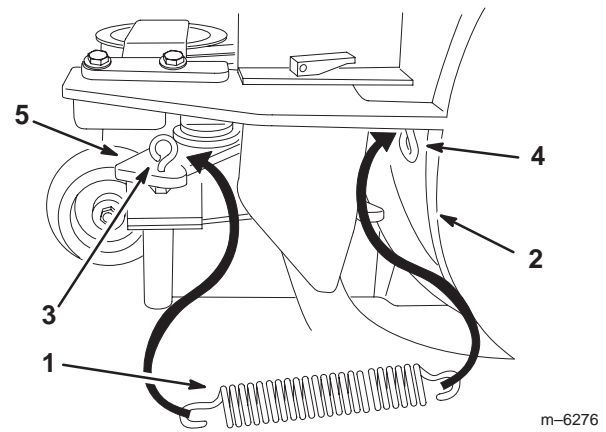

Figure 14
4. Slide the spring into the blower eye bolt (Fig. 14).
5. Install the spring into the idler arm eye bolt (Fig. 14).